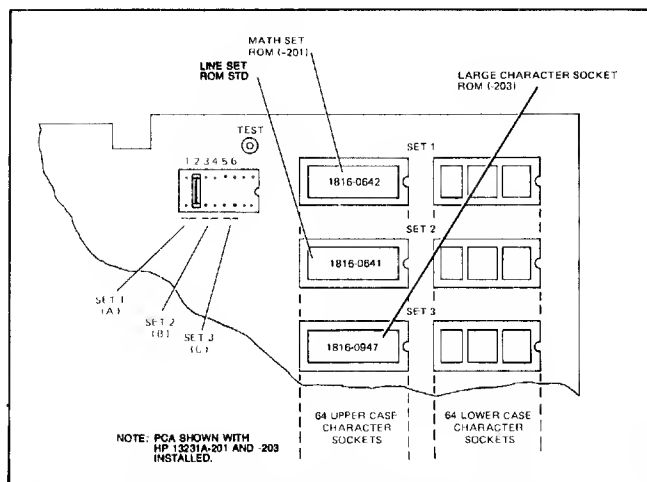

Figure 7-6. Display Enhancement PCA Jumper and ROM Socket Locations
- () Using figure 7-6 and table 7-1 as a guide, check that Display Enhancement PCA jumpers are arranged correctly for the ROM character set configuration. If there are no alternate character set ROM's installed (HP 13231A), all jumpers should be in the jumper socket.
4. () When connected to the Display Enhancement PCA, the PROM Character PCA character sets 1 and 2 replace the Display Enhancement PCA character sets 1 and 2 respectively. If an alternate set(s) is to be replaced, first determine if the user generated PROM set(s) is alphanumeric or microvector. Then, using table 7-1 and figure 7-6 as a guide, correctly arrange Display Enhancement PCA jumpers 2 and 4 for the PROM character set type(s). (Jumpers 1 and 3 can either be removed or left installed.)